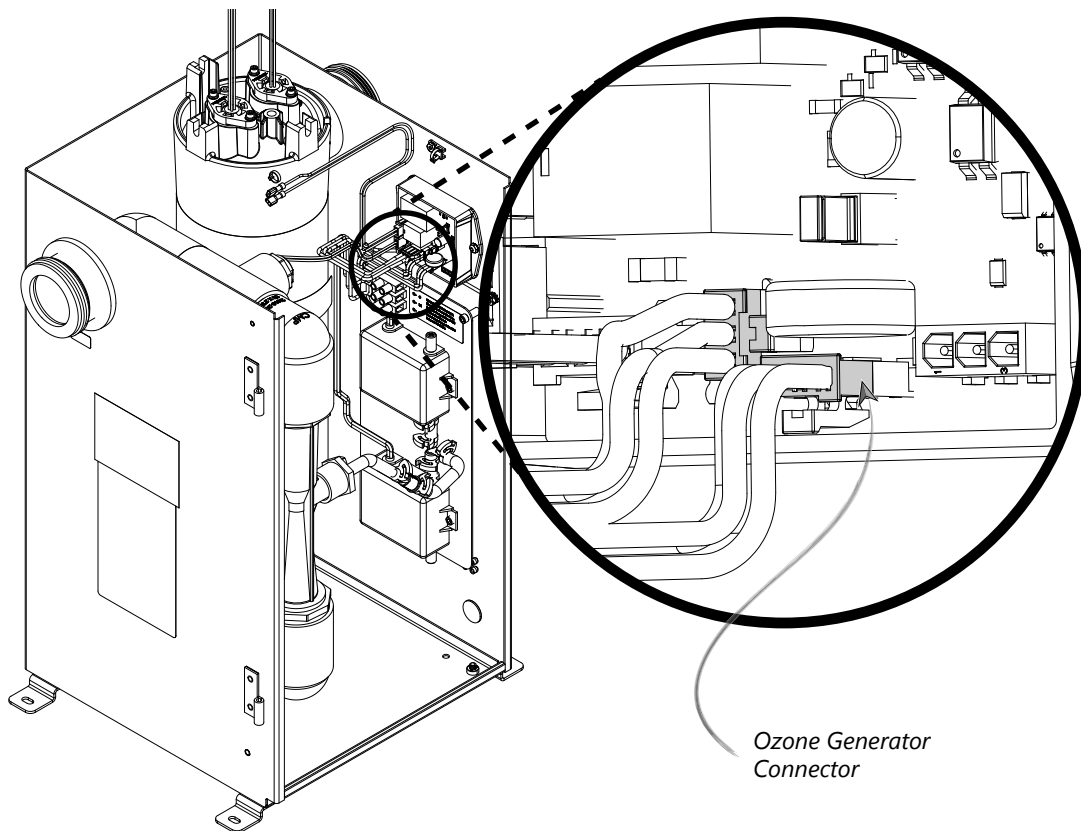

Figure 13: Ozone Generator Connector Location
2. Unplug the connector from power PCB board by unlatching hook Tab on connector (refer to Fig 13).